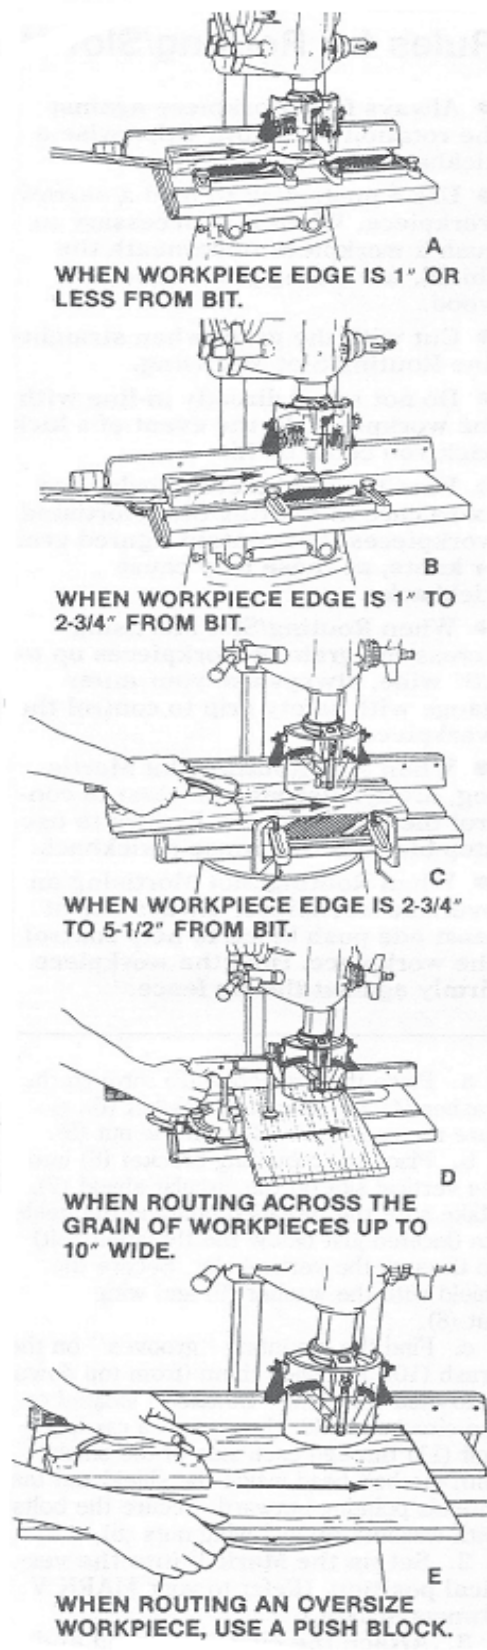

Figure D-79
6. Position the circular shield and brush assembly. Set the depth of cut you will be making. Loosen the front wing nut (8) and lower the shield until it is 1/8" from the top of the workpiece. Tighten the wing nut. You will note that the brush acts as a rear guard and is lowered to the top of the workpiece and/or the rip fence.
7. Position the workpiece according to the following illustrations in figure D-79: